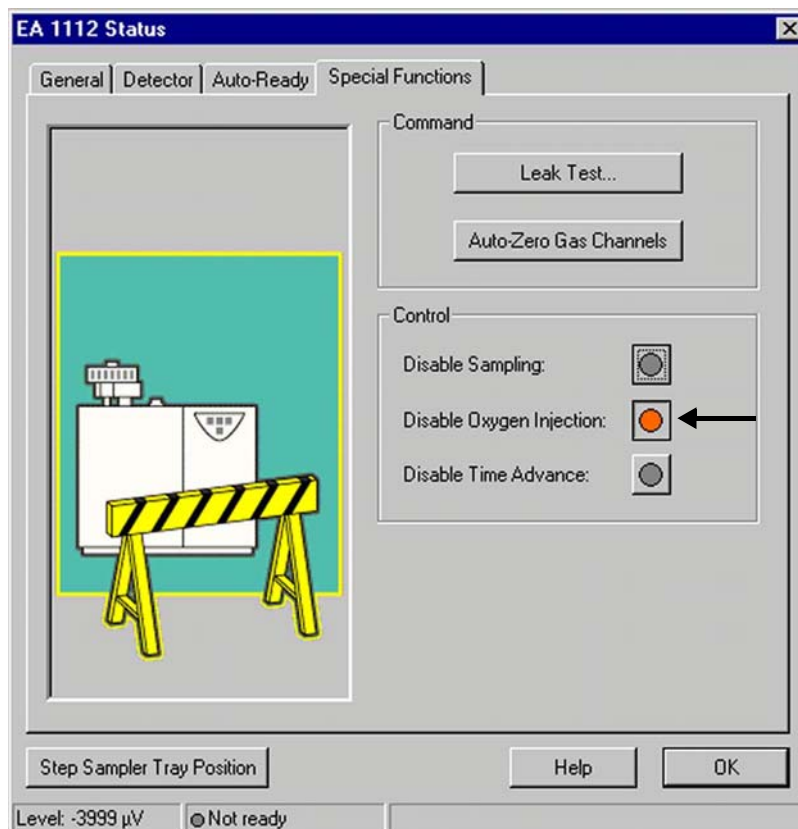

Figure 4-15. Disabling Oxygen Injection in Eager software
2. Before starting acquisition, switch to the Eager software and disable oxygen injection by clicking the **Disable Oxygen Injection** button. The button will turn into orange). See Figure 4-15.